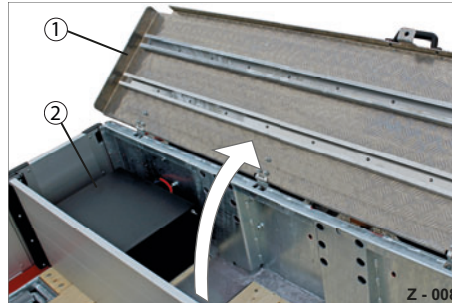

Abb. 12 Battery box
- ▶ Open the cover (Abb. 12/1) of the storage compartment.